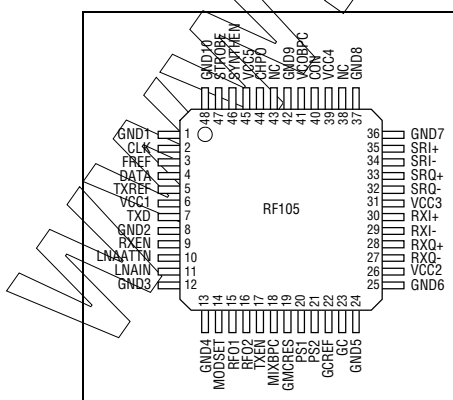

Figure 2. RF105 Pin Signals – 48 Pin TQFP
- 48-pin TQFP package (see Figure 2)